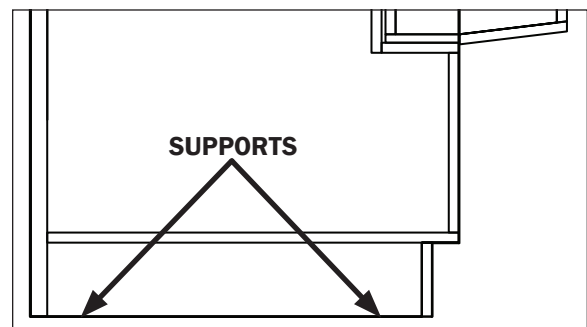

Fig. 1 Horizontal supports (BWU-D-D)
7. Locate horizontal support positions along the chalk line (Fig. 1 & 2). Spot properly leveled shim packs at each support location.